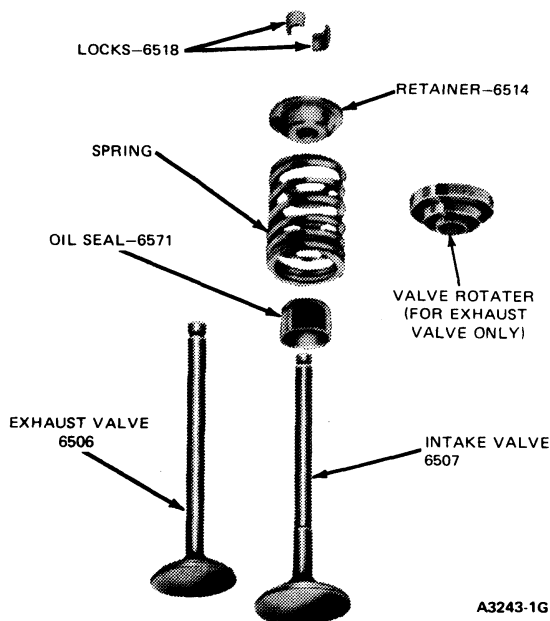

FIG. 48 Valve and Related Parts
3. Install each valve (Fig. 48), in the port from which it was removed or to which it was fitted. Install a new stem seal on the valve use a 5/8 inch deep wall socket and a light hammer or mallet to seat the seal on the valve stem.
4. Install the valve spring over the valve, and then install the spring retainer. Compress the spring and install the retainer locks (Fig. 48).